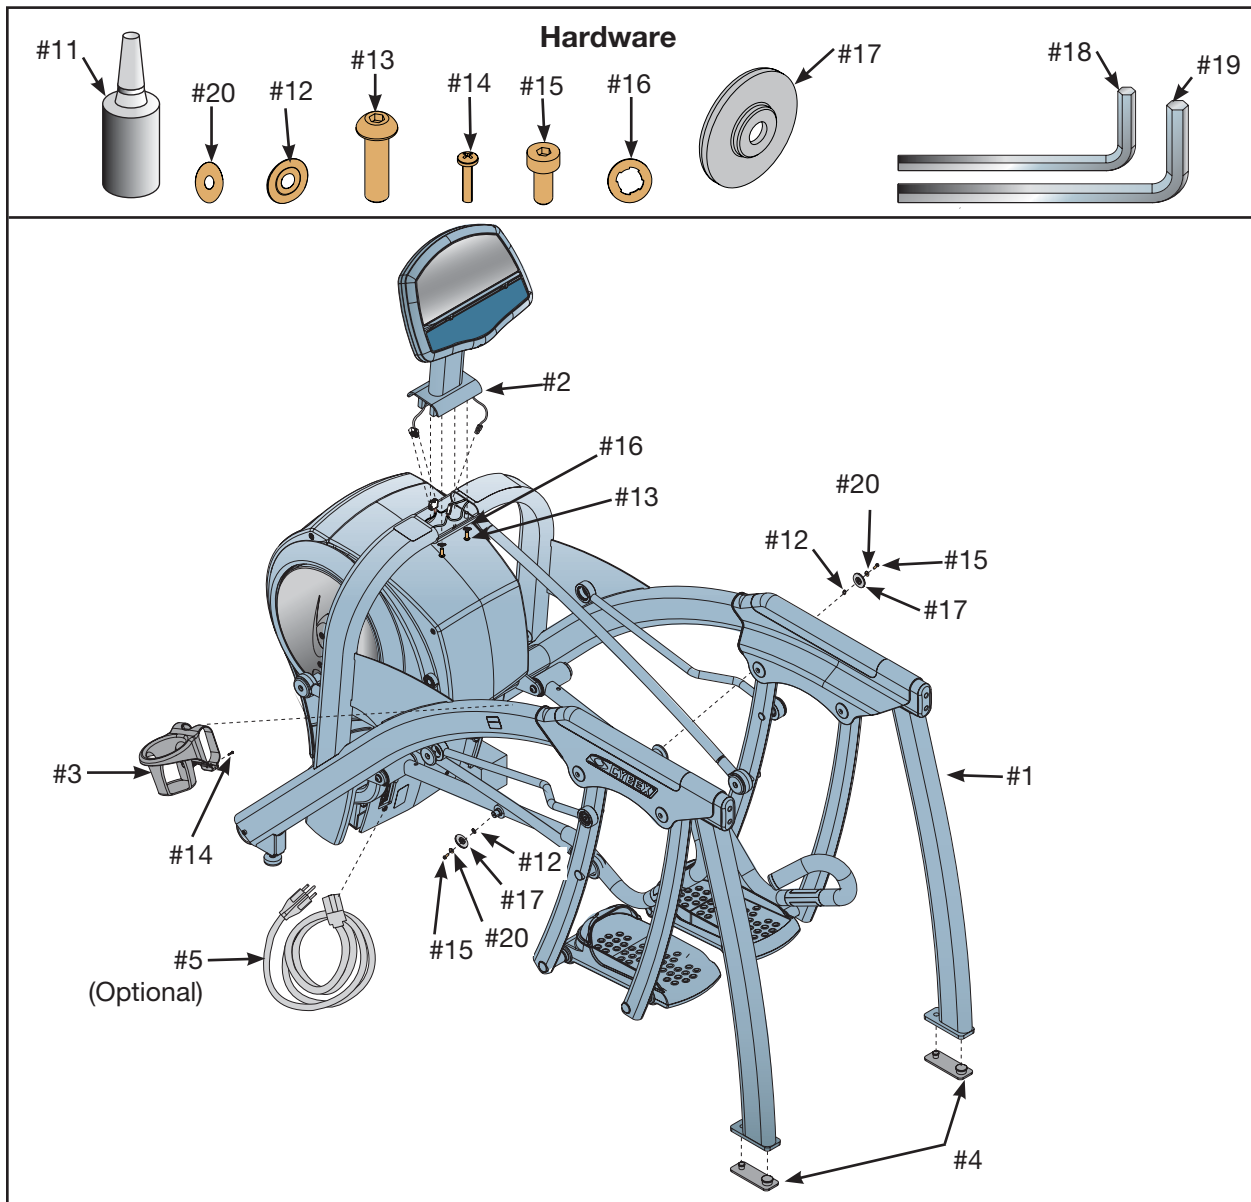

Figure 2
E. Check off () each item in the hardware pack as you find it. See Figure 2.